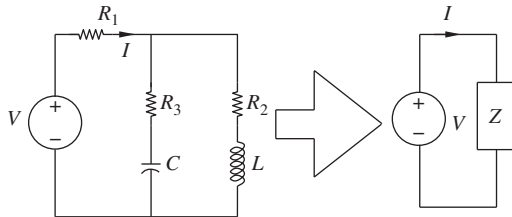

Figure P5.25 Series-parallel circuit for problem P5-25.
- 5-25.** An electric circuit consists of the components shown in Fig. P5.25, with $Z_1 = R_1$, $Z_2 = R_2 + j\omega L$, and $Z_3 = R_3 + (1/j\omega C)$.